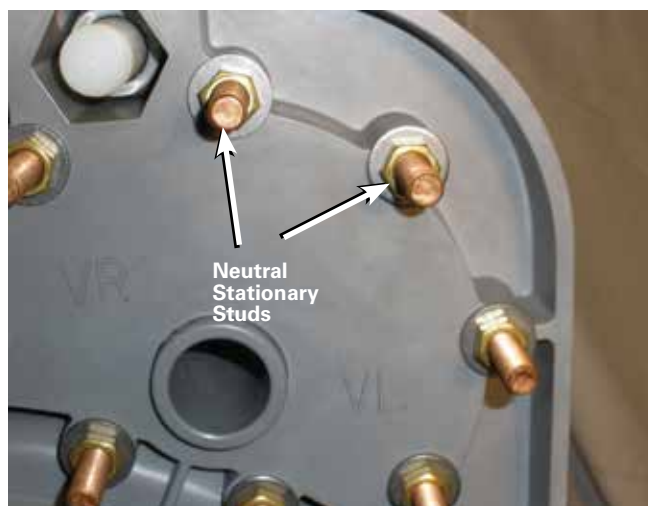

Figure 17. Reinstalling neutral stationary and hardware.
17. Place a flat washer and nut over each of the reversing neutral stationary contact studs. Tighten to a torque of 80–90 in-lbs (9.0–10.2 Nm). See Figure 17.